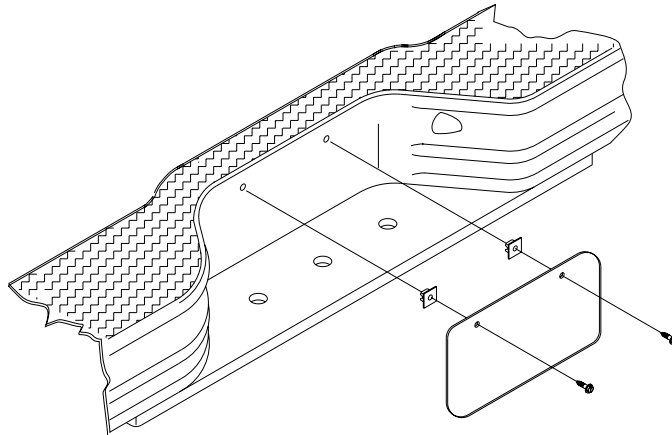

FIGURE 3
STEP 4: Using square plastic grommets and sheet metal screws, install license plate. See figure 3.